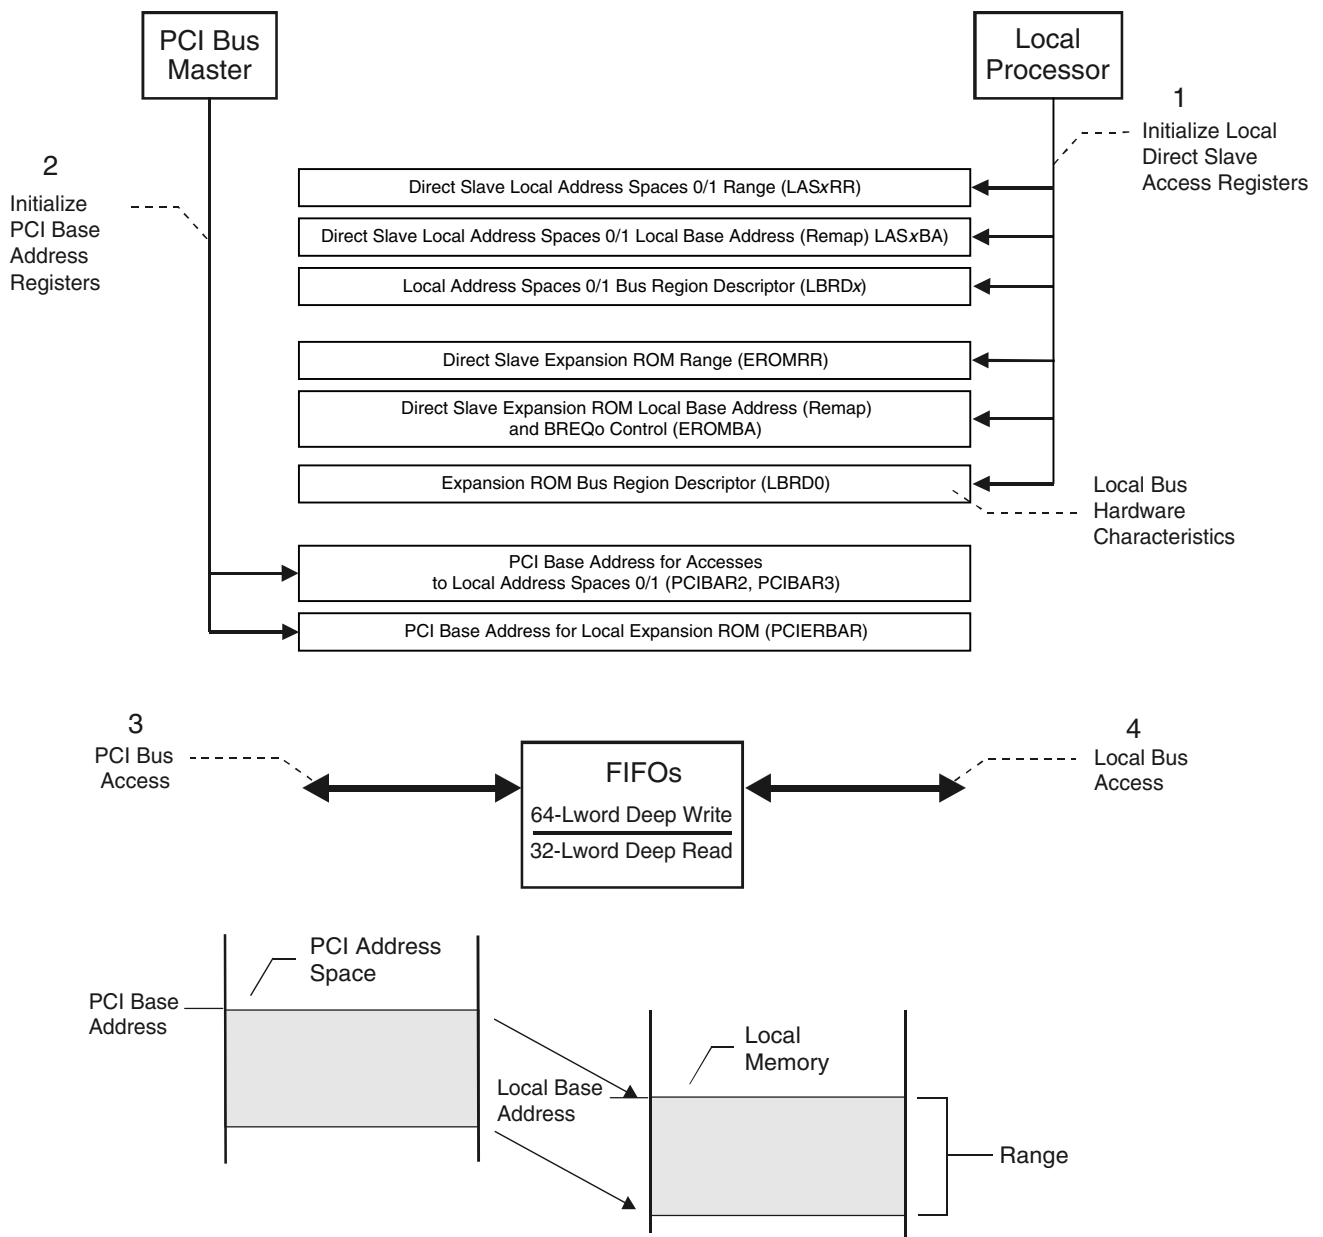

Figure 5-10. Local Bus Direct Slave Access
A fourth register, the Bus Region Descriptor register(s) for PCI-to-Local Accesses (LBRD0 and/or LBRD1), defines the Local Bus characteristics for the Direct Slave regions. (Refer to Figure 5-10.)
After a PCI reset, the software determines how much address space is required by writing all ones (1) to a PCI Base Address register and then reading back the value. The PCI 9056 returns zeros (0) in the “don’t care” address bits, effectively specifying the address space required. The PCI software then maps the Local Address space into the PCI Address space by programming the PCI Base Address register. (Refer to Figure 5-10.)